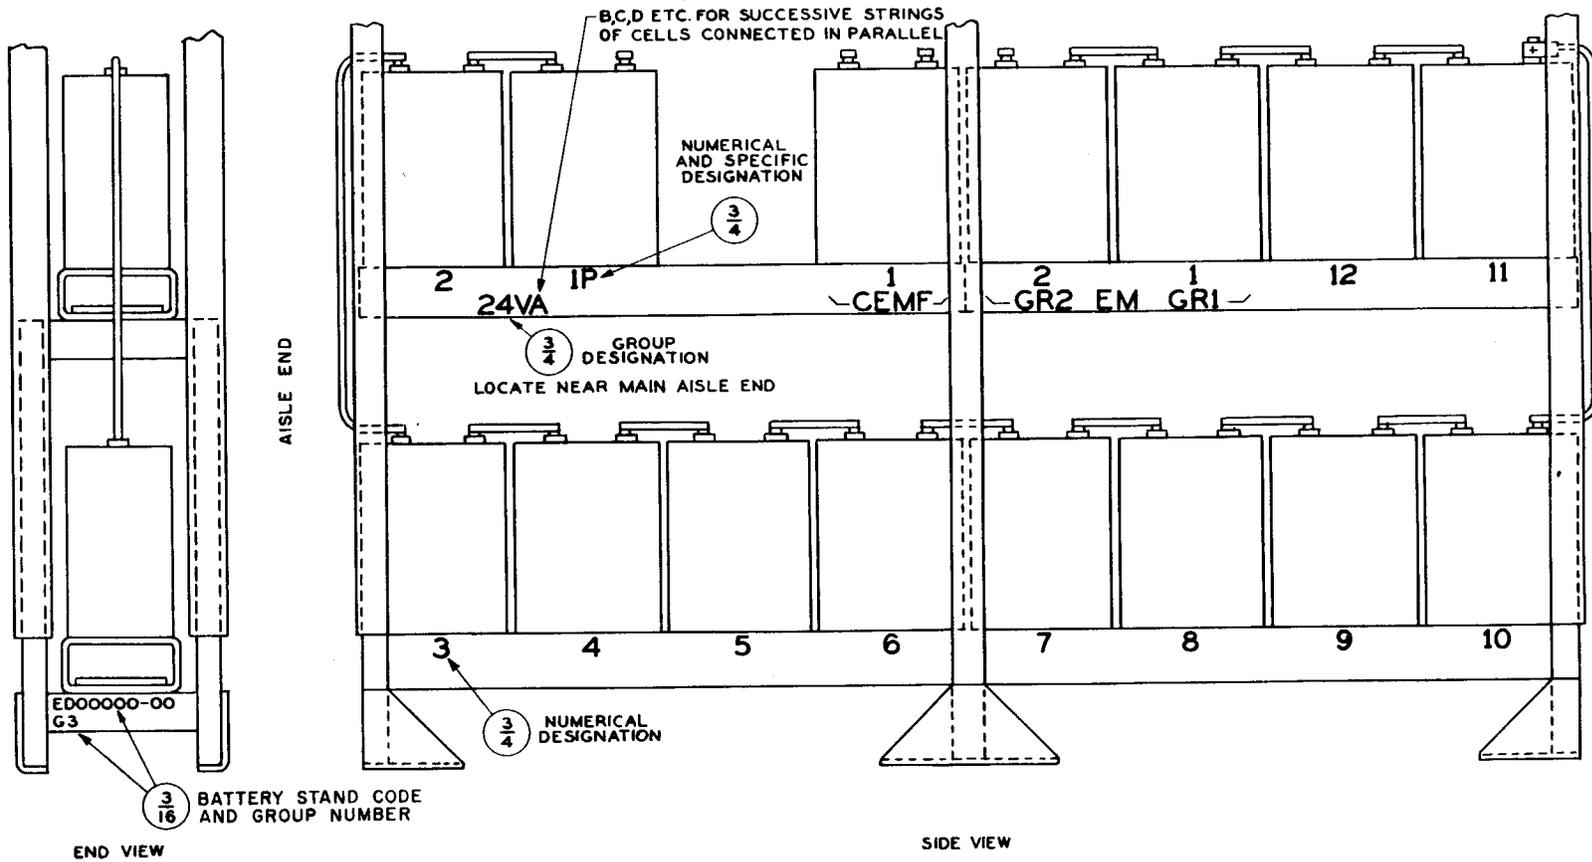

Fig. 4 - Storage Cells on Two-Tier, One-Row Stand
2.08 Cells Mounted on Stands or Racks or in Cabinets, Including Counter-cells: Designate on the main aisle side only except when mounted on a double row, in which case, designate the cells on their respective aisle sides. (See Fig. 4.) In the case of two-row cabinets accessible from one side only, place the designations for the back row on the inside rear wall. In the case of two-tier, two-row stands with one row per tier on wall side, stamp on front edge of shelf the designations for both rows of cells mounted thereon with the designations for the cells in the rear row above the designations for the cells in the front row (see Fig. 5).
2.09 Single-Cell Units: Apply a numerical designation for each cell as in Fig. 4.
2.29 See 2.07, 2.08, and Fig. 4 and 5.